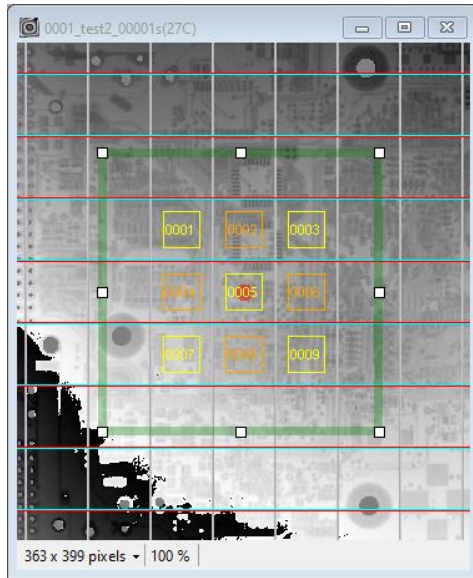
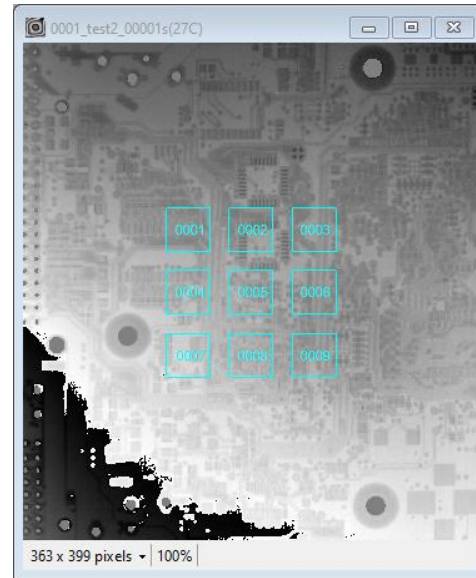

Figure 3.36 Green Array Bounding Box
Figure 3.37 Added Partition Array
6. To save the partition regions, use the green array bounding box to select the specific regions to be saved. The bounding box can be edited via the Array Context Menu to square its dimensions or edit its position and size (Figure 3.35). Note that only regions whose whole areas are enclosed by the green bounding box will be saved, as seen in Figure 3.36 and Figure 3.37. Click on **Add Regions** to add the selected regions. The program will lock these regions so that they cannot be edited. Interaction with the created array can occur just as with a normal partition (see Section 3.5.1).